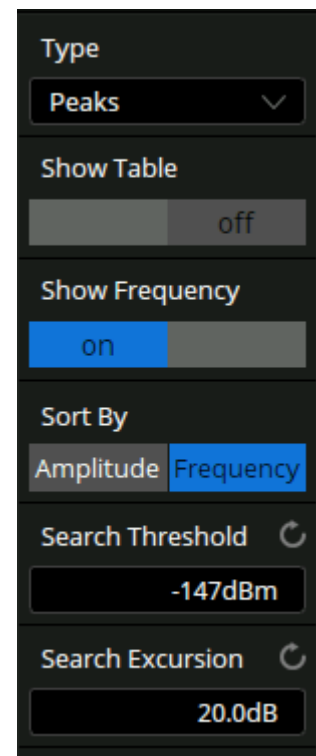

Figure 13.21 Peaks Menu
3. Touch **Type** and select **Peaks**. The menu shown in figure 13.21 will be displayed.